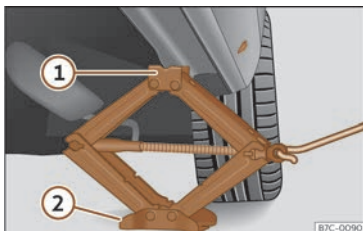

Fig. 228 Crossbar: mounting the jack on the vehicle.
- Turn the jack crank handle, located below the strut support point, to raise it until the tab ① >>> **Fig. 228** is below the housing that is provided.
- Align the jack so that the tab ① “grips” onto the housing provided on the cross member and the mobile base ② is resting on the ground. The base plate ② should fall vertically with respect to the support point ①.